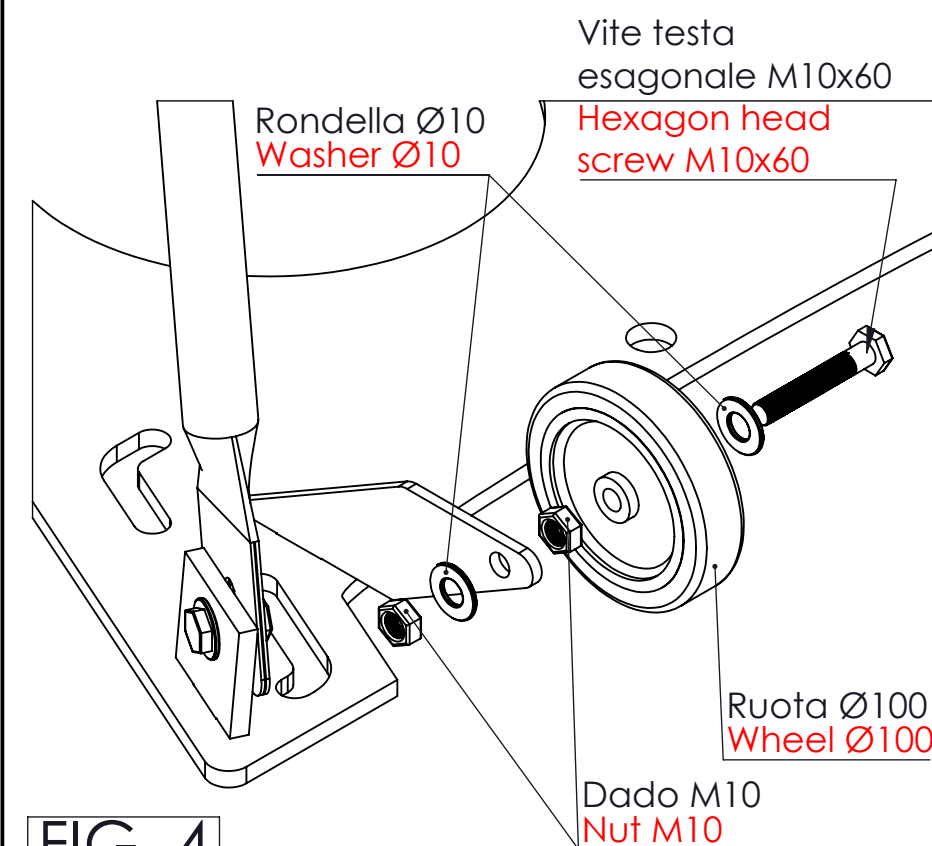

FIG. 4
4. Fit the wheels using the M10x60 hexagon head screws, inserting washers and M10 nuts as shown in Figure 4, and fully tighten all fastenings.